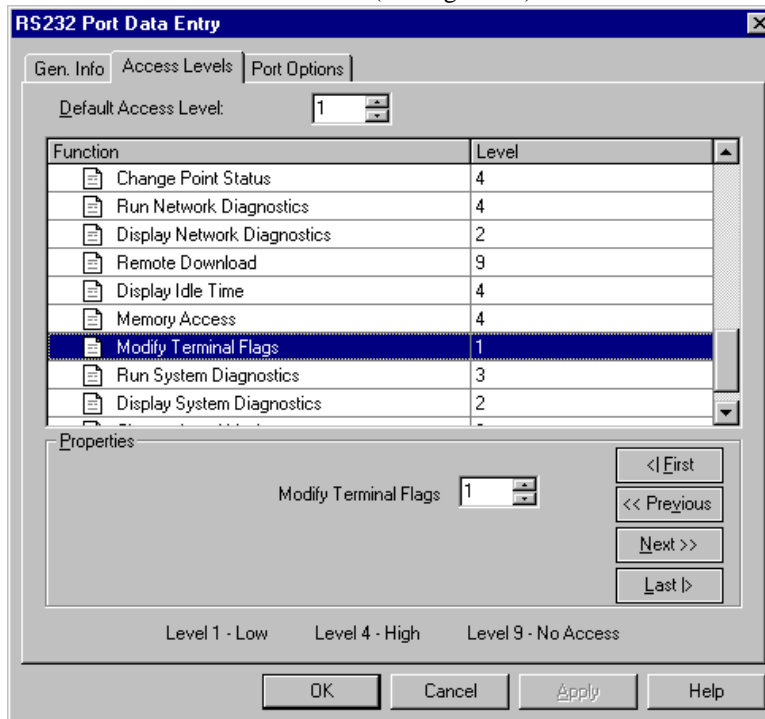

Figure 21. Access Levels Option
- Choose **Computer** for device type, and type in a header label and port ID label. When done, click on the **Access Levels** tab (see Figure 21).